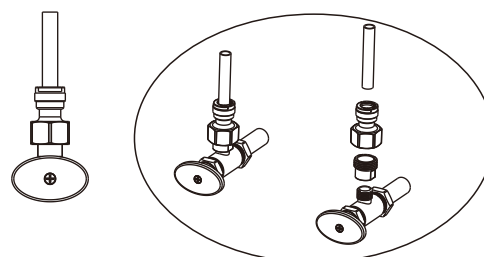

Figure 2
2. If the outlet of the angle valve is 3/8", then you need to install a 3/8"-1/2" adapter (choose external or internal thread according to the situation), and then install a adapter (choose external or internal thread according to the situation) to connect the inlet hose. (Figure 2)